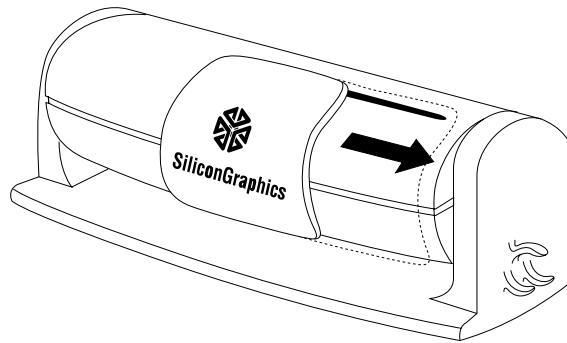

Figure 2-20 Sliding the IndyCam Lens Cover Aside
3. Slide the plastic lens cover on the camera aside to expose the lens, as shown in Figure 2-20.